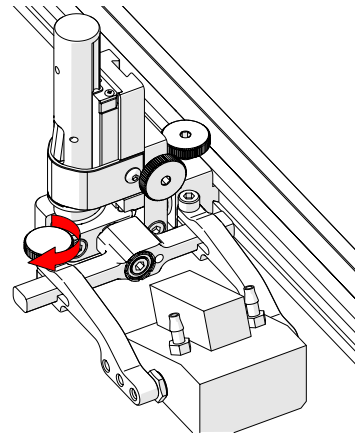

Fig. 110 - Tighten arm knob
6. Tighten the probe holder arm adjustment knob (Fig. 110).